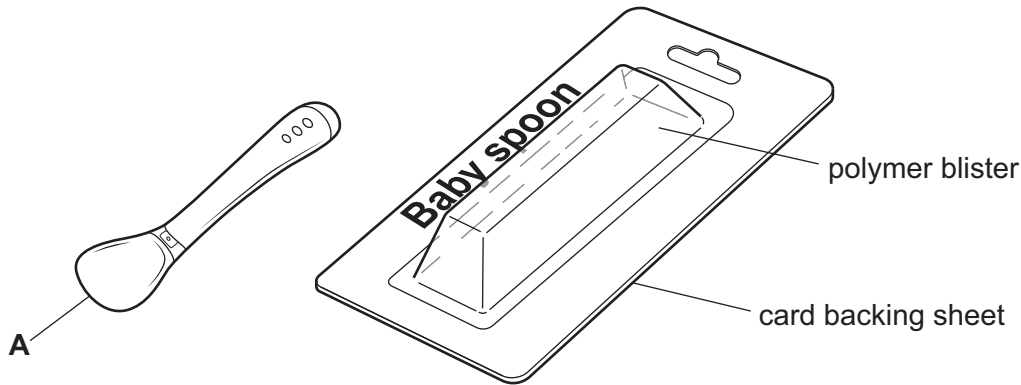

Figure 1.1
- 1 Figure 1.1 shows a baby feeding spoon and its packaging.